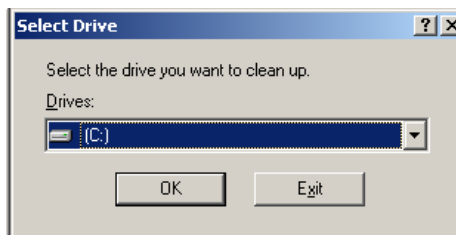
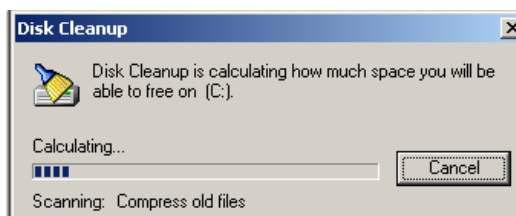

Figure 5-108 Select Drive Dialog Box
Figure 5-109 Disk Cleanup Dialog Box
2. In the **Select Drive** dialog box, select the desired drive and click **OK**. See Figure 5-108. The **Disk Cleanup** dialog box opens showing it is calculating progress. This can take several minutes. See Figure 5-109.